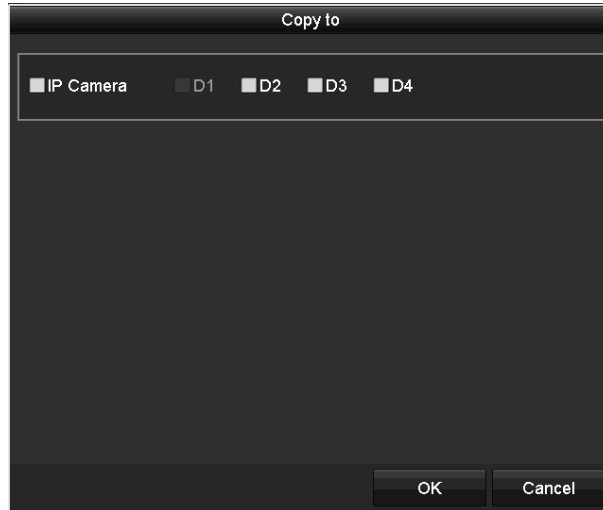

Figure 12-7 Copy Settings to Other Camera(s)
Step 4 You can copy the quota settings of the current camera to other cameras if required. Click the **Copy** button to enter the Copy Camera menu, as shown in Figure 12-7.